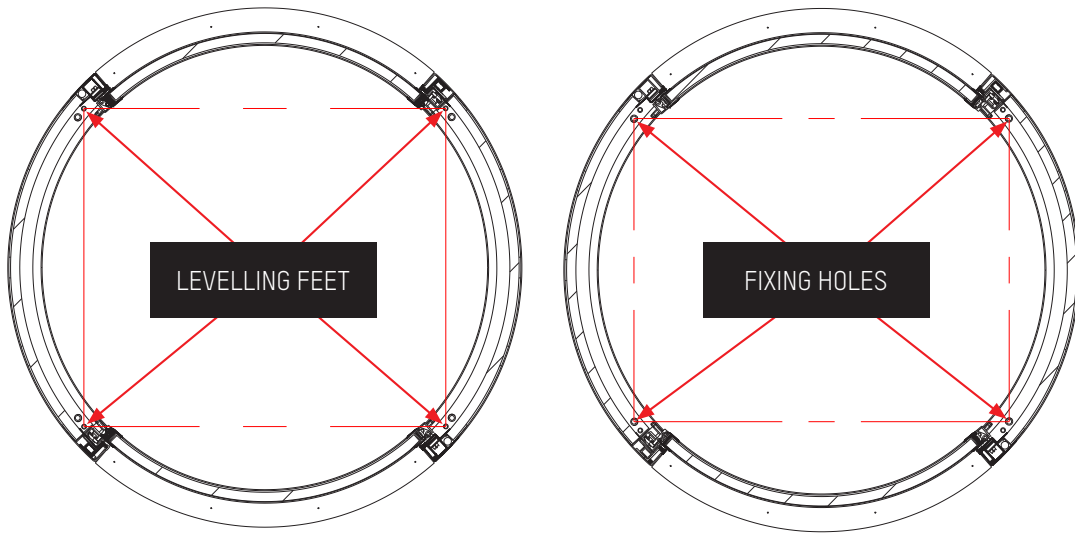

Fig. 19 - Levelling feet and fixing holes
2. The security booth is equipped with levelling feet (⇒ Fig. 19), operate on these until the desired levelling is achieved.